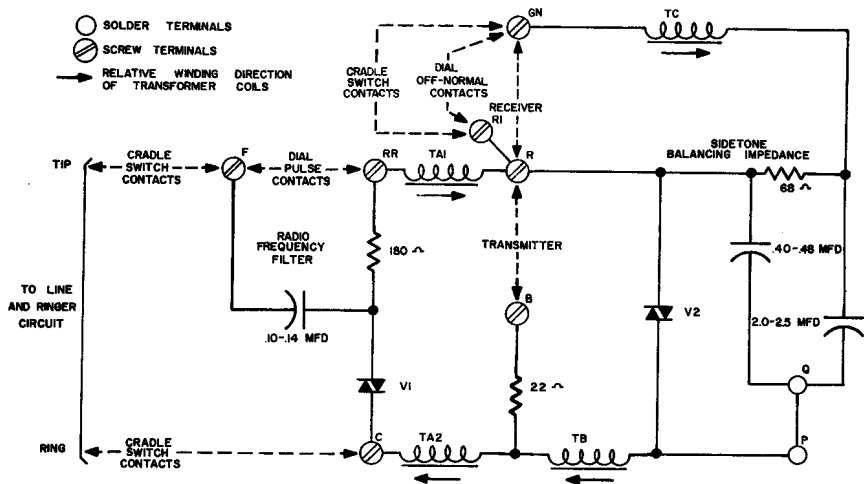
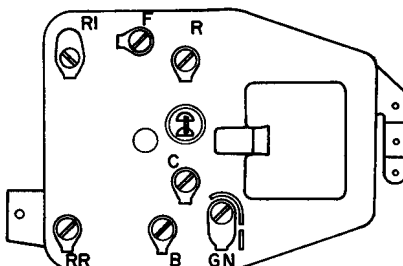

FIGURE 4 CIRCUIT DIAGRAM
FIGURE 5 TERMINAL BOARD LAYOUT
7.01 The circuit is shown in Figure 4, the dash lines show typical connections to other components of a complete telephone instrument. The features of the circuit are briefly discussed in the following paragraphs.
- b. The direction of winding of the four coils of the transformer is indicated by arrows in Figure 4. Received speech currents pass via windings TA₁, TB and TA₂, each of which produces and additive voltage in winding TC. The received currents also produce a voltage across the 68Ω resistor that opposes and is almost equal to that produced by the induced voltages in winding TC. There is, therefore, very little power loss in the resistor and varistor and maximum power in the receiver. The low impedance of the transmitter is matched to the loop by the turn of winding TB to winding TA₁ and TA₂.
- 8.01 Thorough testing of the network assembly can only be performed with elaborate test equipment. An adequate check on performance, for maintenance purposes, is to compare a suspected unit with a known good unit by substitution. Resistance and capacitance checks can be carried out between many of the terminals, as can be seen from Figure 4. Note that the soldered connection between terminals P and Q can be opened to permit testing of the two network capacitors. Figure 5 shows the layout of the terminal board of the assembly.